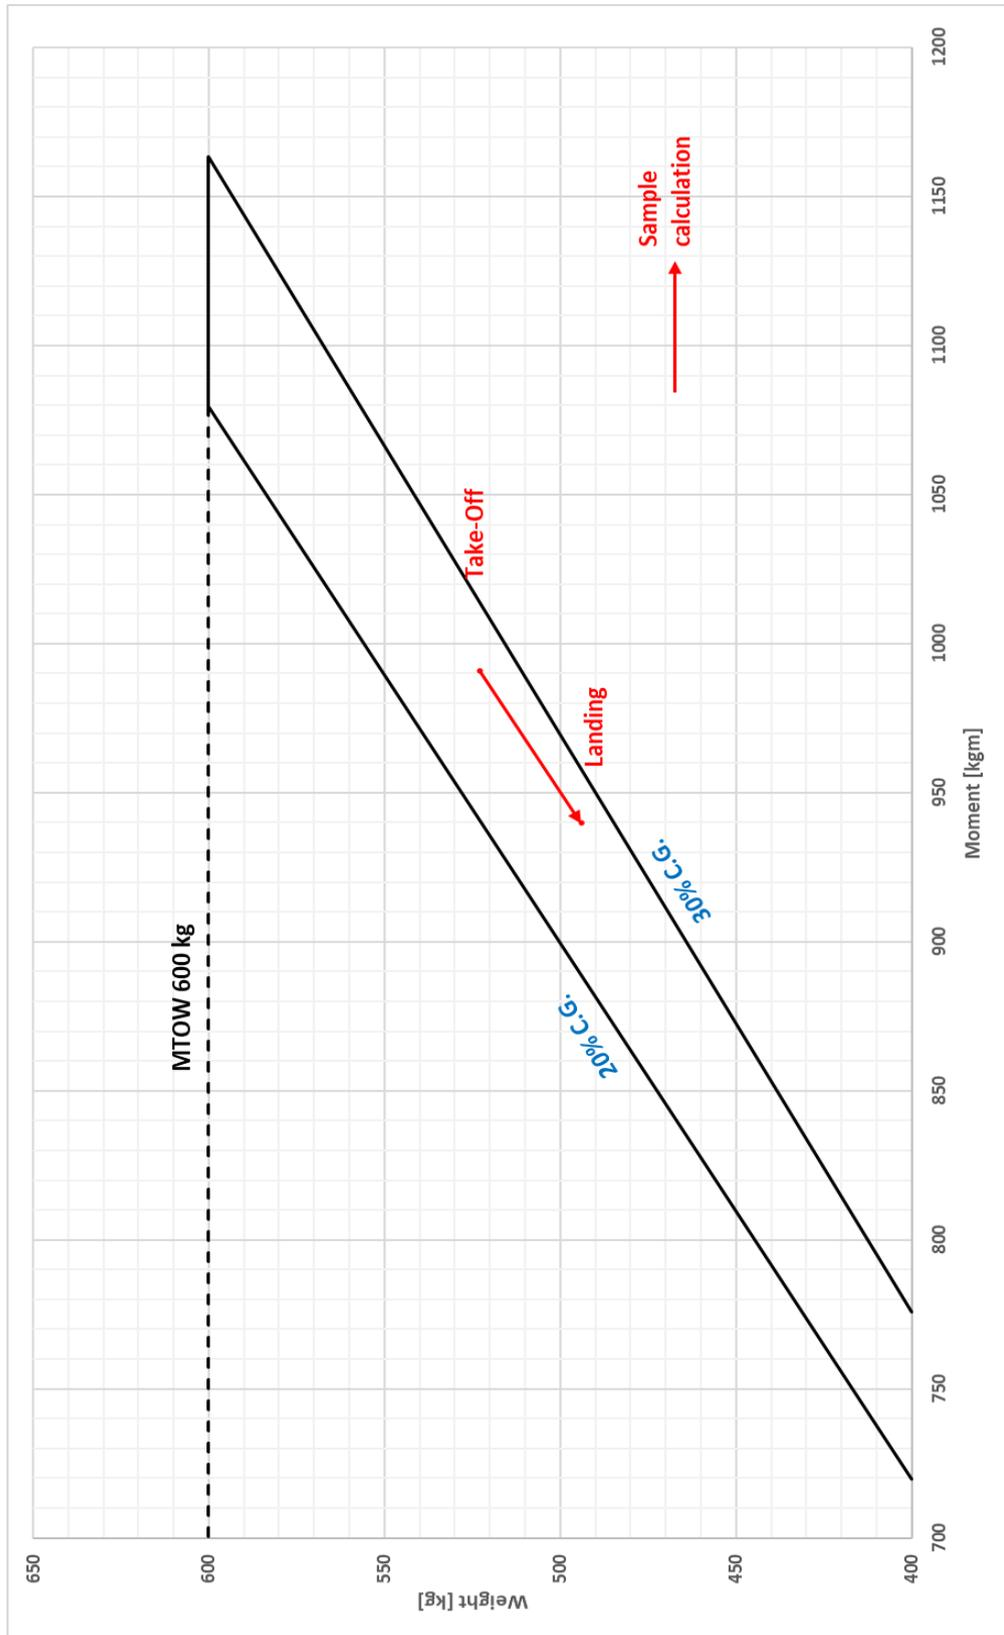

Fig.6.3 WEIGHT-MOMENT ENVELOP
In this subsection, the procedure to be used for the determination of aircraft weight and balance in flight is described. The weight and moment obtained must fall within the approved Weight-Moment Envelope (Figure 6-3). The procedure explained requires the use of:
- Weight-Moment Envelope (Figure 6-3)
Alternatively, the moment can be read from the Loading Diagram (Figure 6-3).